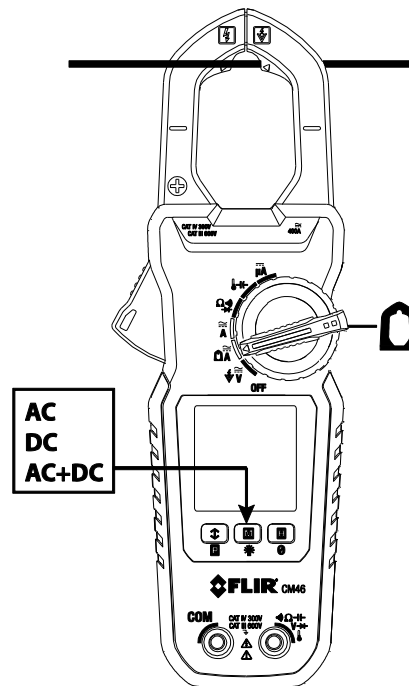

Figure 5-4 Low Current Clamp Measurements
3. Press the trigger to open the clamp jaws. Fully enclose the conductor(s) of a single pole—refer to Figure 5.4